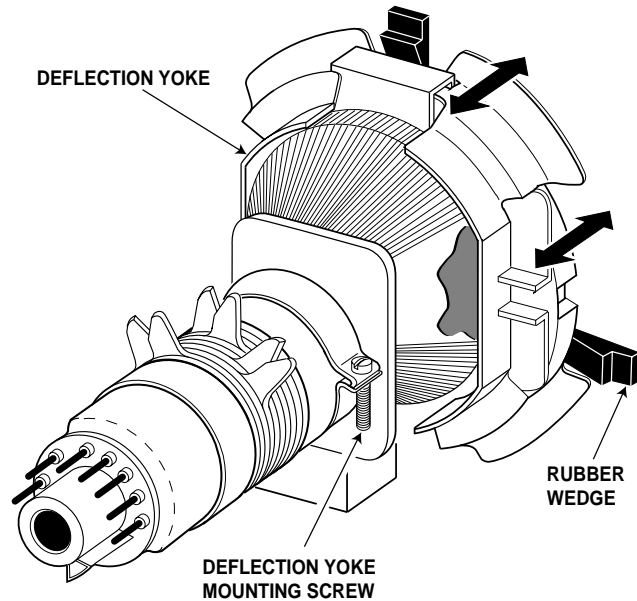

Figure 1. Deflection Yoke Movement
1. When replacing picture tube or deflection yoke, mount deflection yoke and purity-convergence magnets assembly properly. See Figure 1. Position the picture tube facing east or west. Demagnetize the picture tube and receiver using an external degaussing coil. Set receiver to Service Menu No. 073 (no vertical sweep) while degaussing.